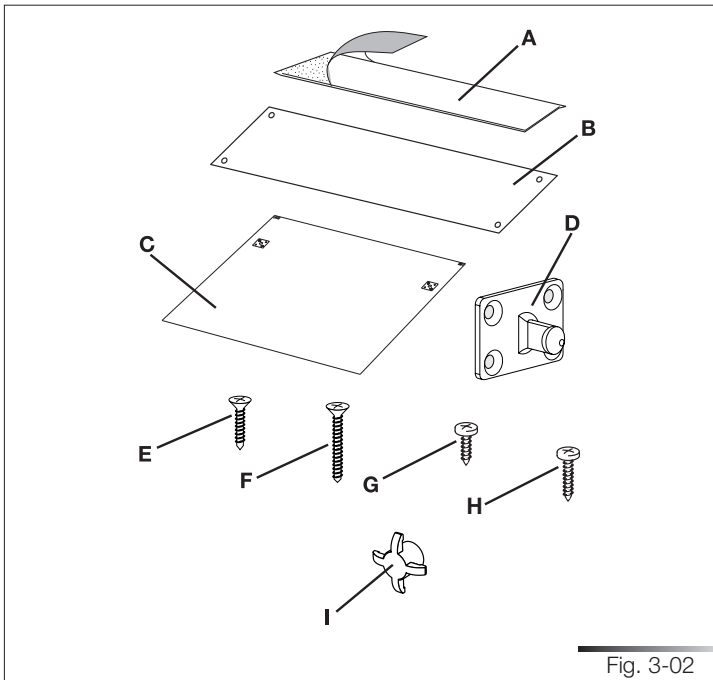

Fig. 3-02
- 1 adhesive steam guard (depending on the model) (ref. A fig. 3-02);
- 1 steel adhesive steam guard (depending on the model) (ref. B fig. 3-02)*;
- 1 template for door panel (ref. C fig. 3-02);
- 2 hooks for door panel (ref. D fig. 3-02);
- 8 screws for securing the door panel hooks (ref. E fig. 3-02);
- 2 screws for securing the door (ref. F fig. 3-02);
- 4 screws for fixing the dishwasher to the adjacent walls (ref. G fig. 3-02);
- 2 upper fixing screws (ref. H fig. 3-02);
- 2 screw caps (ref. I Fig. 3-02);